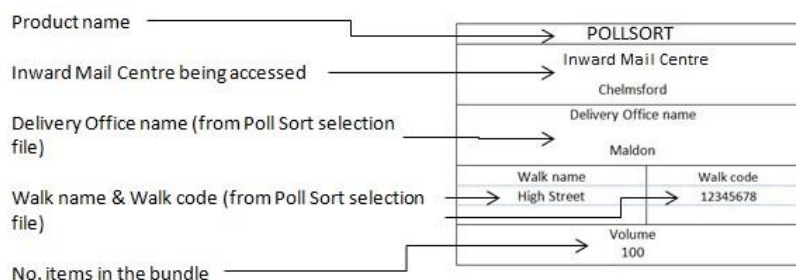

Figure 56: Poll Sort bundle label
- Tray labels and York cards must clearly be identified as poll sort. Examples of labels are shown below in Figures 56 to 59.